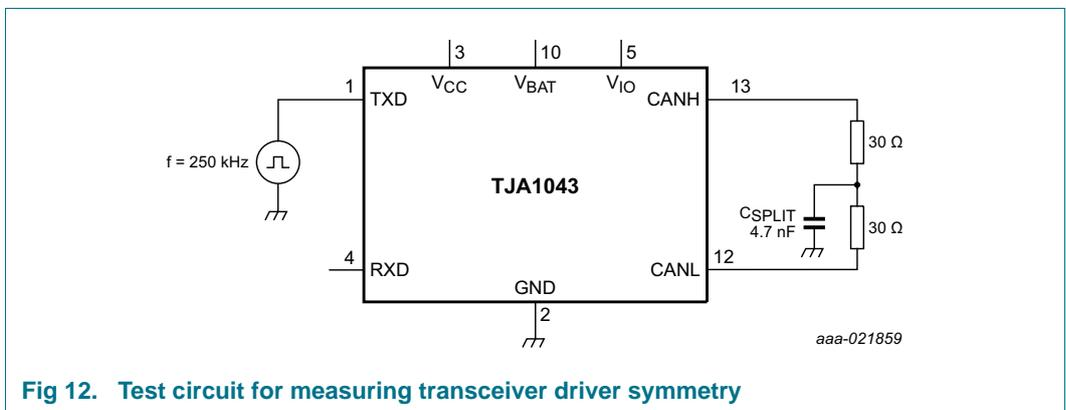

Fig 12. Test circuit for measuring transceiver driver symmetry
- [3] The test circuit used to measure the bus output voltage symmetry (which includes C_{SPLIT}) is shown in Figure 12.